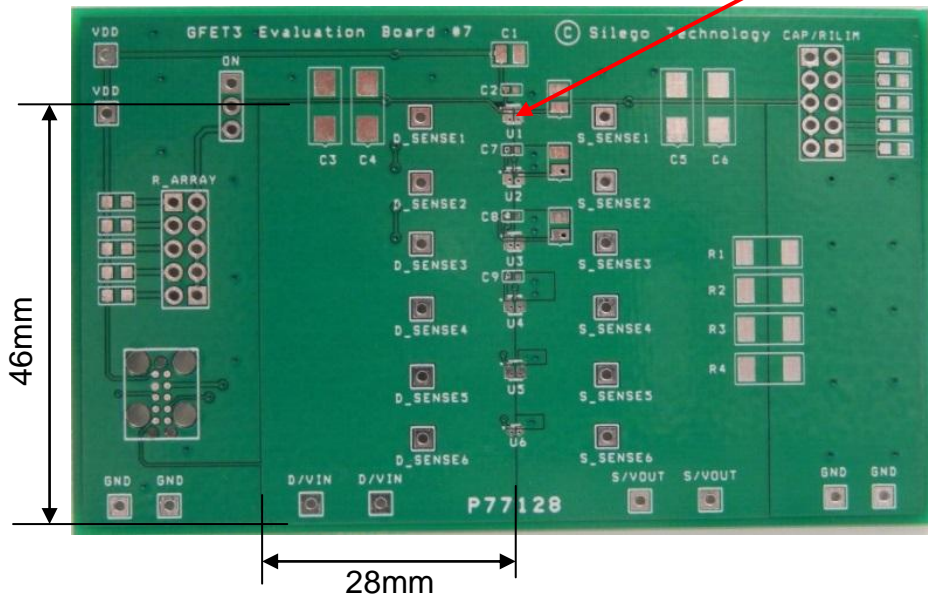

Figure 3. SLG59M1456V Evaluation Test Board
2.3. The D/VIN and S/VOUT pins carry significant current. Please note how the D/VIN and S/VOUT pads are placed directly on the power planes in Figure 3, which minimizes the $R_{ds(ON)}$ associated with long, narrow traces. The D/VIN, S/VOUT and GND pins dissipate most of the heat generated during high-load current condition. The layout shown in Figure 3 is illustrating a proper solution for heat to transfer as efficiently as possible out of the device.